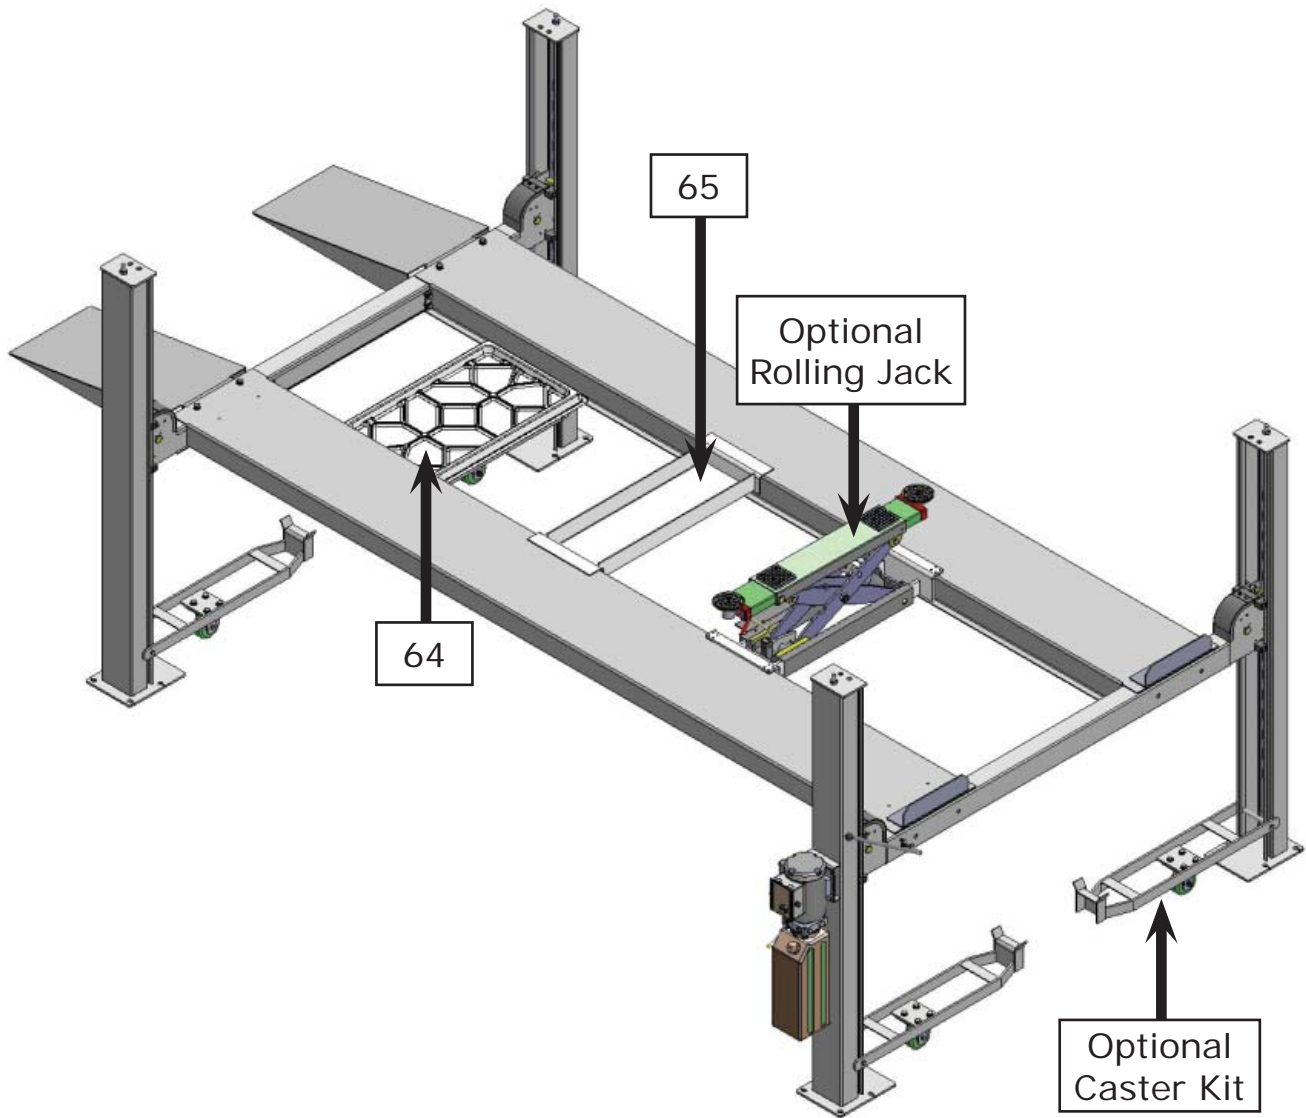

Fig. 28
2. Install steel jack tray, plastic oil pans and **optional** rolling jacks. (See Fig. 28).